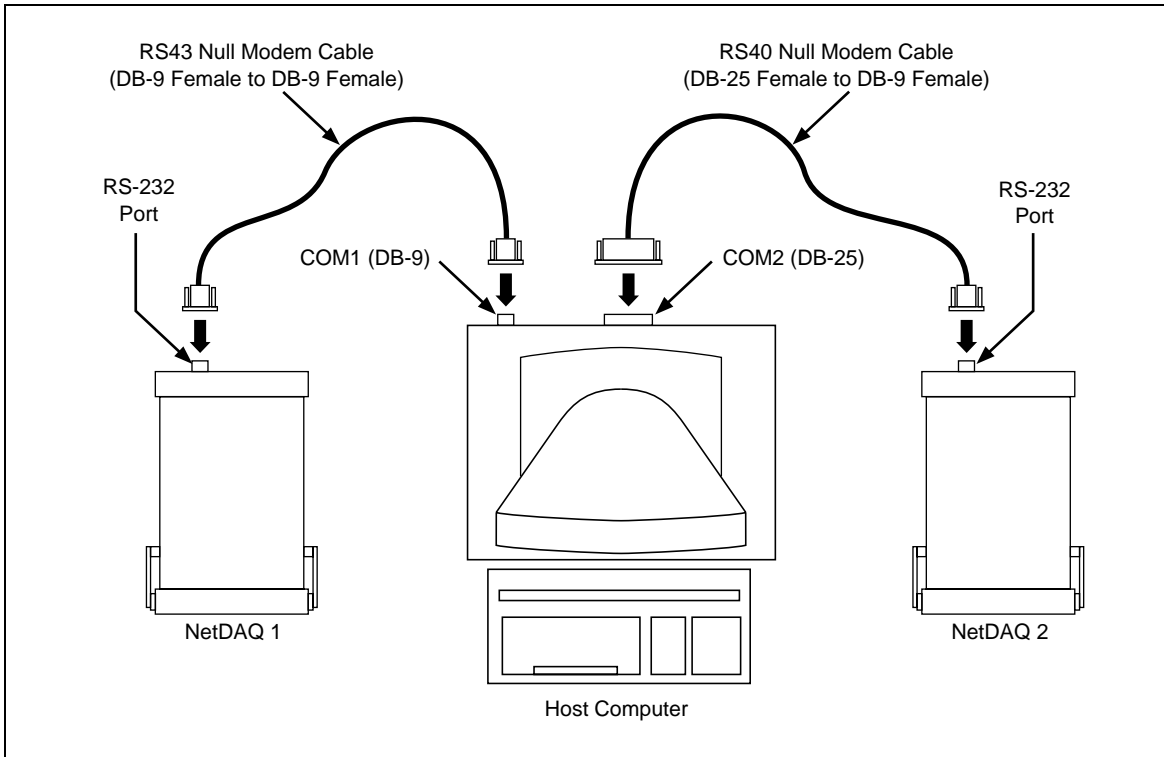

Figure 4-5. Instrument and Host Computer Calibration Setup
1. Connect the instrument RS-232 serial port to a host computer COM serial port as shown in Figure 4-5. You can connect two instruments as shown, although only one is calibrated at a time. The “RS” cables used are standard null-modem cables (reversed transmit and receive lines) that may be ordered from Fluke.